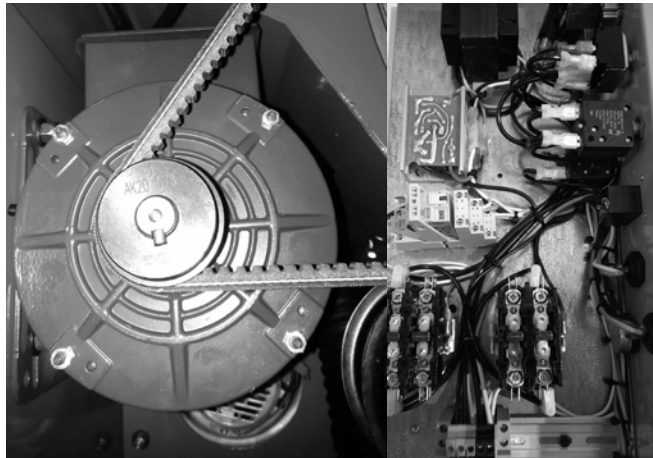

Figure 2
1) *Belt tension and condition* (Figure 2). The belt should not be frayed or slipping on the pulleys. Replace the belt if it is damaged. Raise the belt tensioner to remove any slack in the belt.
Note: **Do not lubricate chain** (Figure 2). Lubricants may attract foreign materials to the chain and shorten it's life.